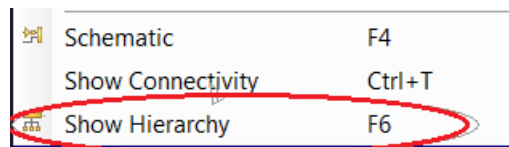

Figure 19: Show Hierarchy Option
2. Select Show Hierarchy, as shown in Figure 19.